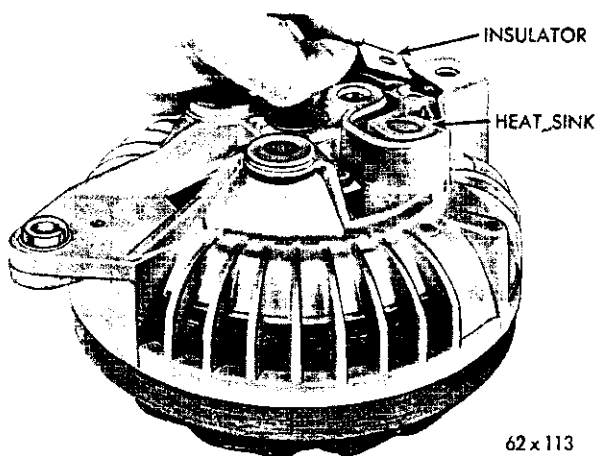

Fig. 58—Removing the Heat Sink Insulator
(9) Remove the insulator (Fig. 58).